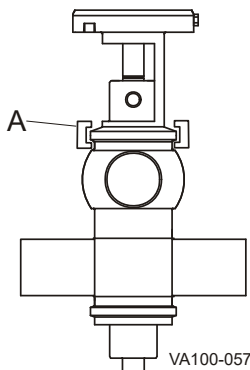

Figure 21 - Location of Adapter Clamp
4. Remove the clamp between the yoke and the adapter (Figure 21, item A).
10. Re-fasten the clamp between the yoke and the adapter (Figure 21, item A), then remove the air pressure to cycle the valve closed.